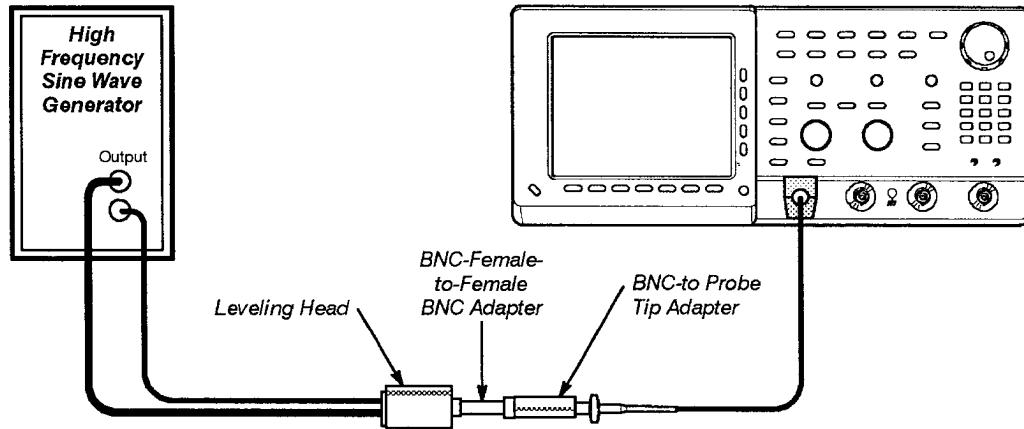

Figure 5-6: Initial Test Hookup
- Connect the output of a high-frequency sine wave generator, through its leveling head, to a female-to-female adapter (see Figure 5-6).